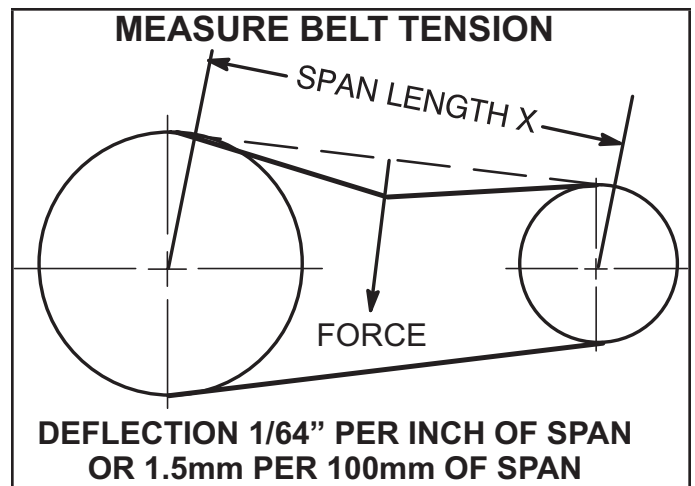

FIGURE 14
- 1 - Measure span length X. See FIGURE 14.
- 2 - Apply perpendicular force to center of span (X) with enough pressure to deflect belt $\frac{1}{64}$ " for every inch of span length or 1.5mm per 100mm of span length.